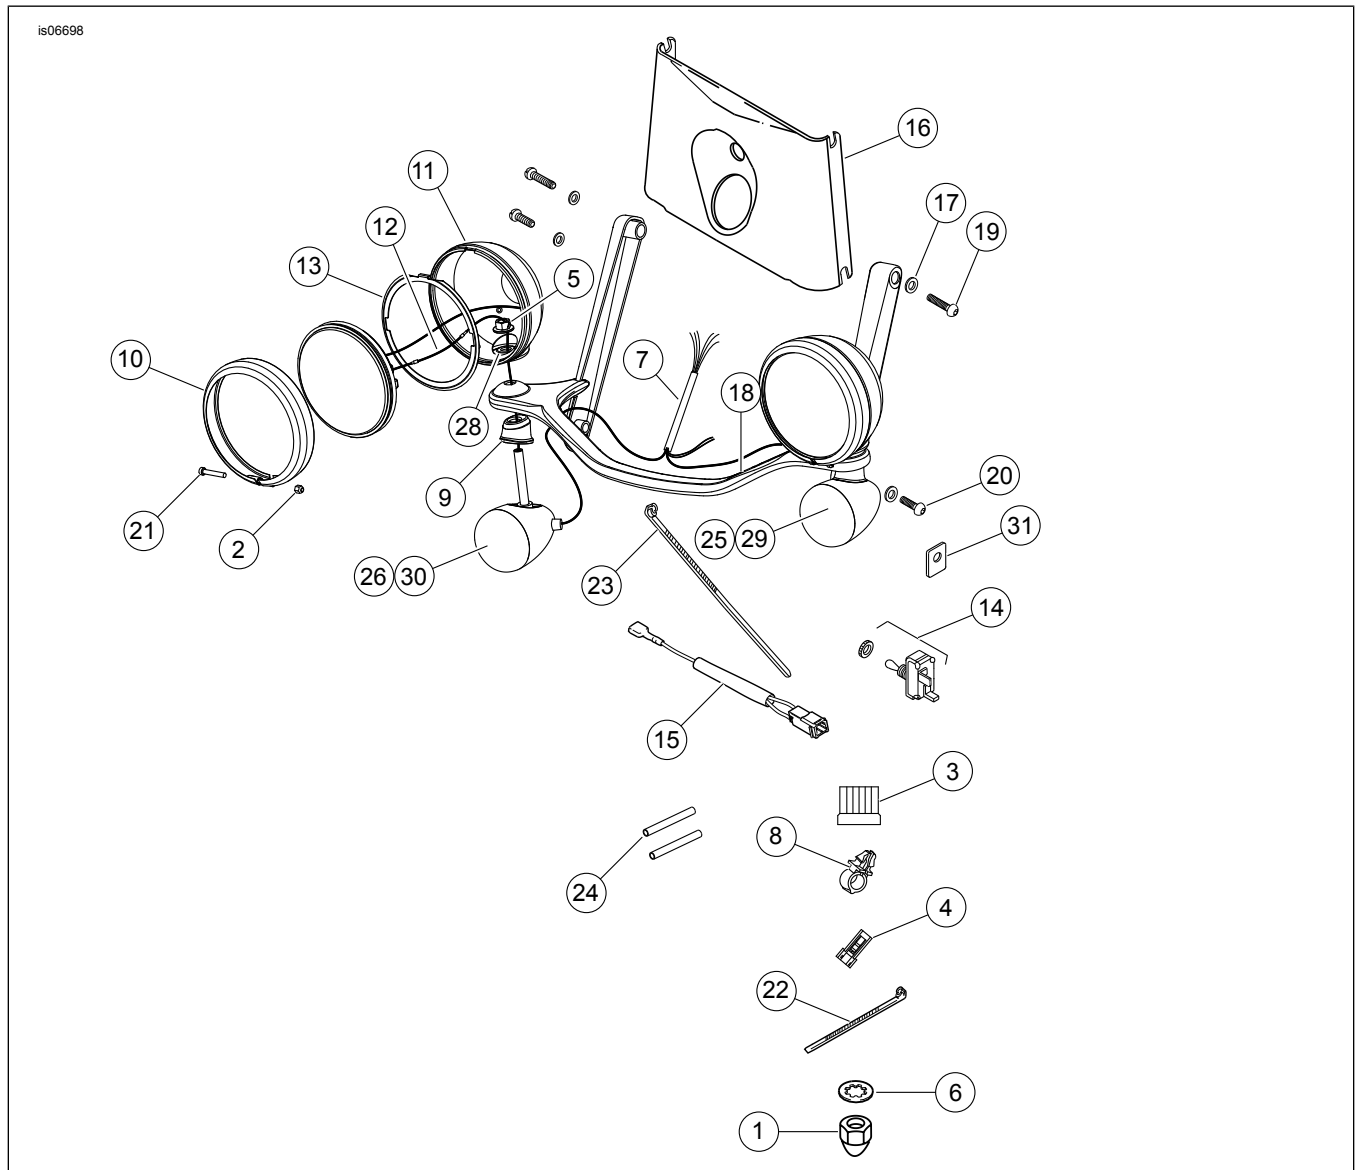

Figure 12. Service Parts: Deluxe Auxiliary Lamp Kits
1. See Figure 12 and Table 2. Place a flat washer (17) on the 1-3/8 in. bolts (19) from the kit.
2. Fit the lightbar assembly and chrome front panel (16). Route the turn signal wires through the slots in the chrome front panel.